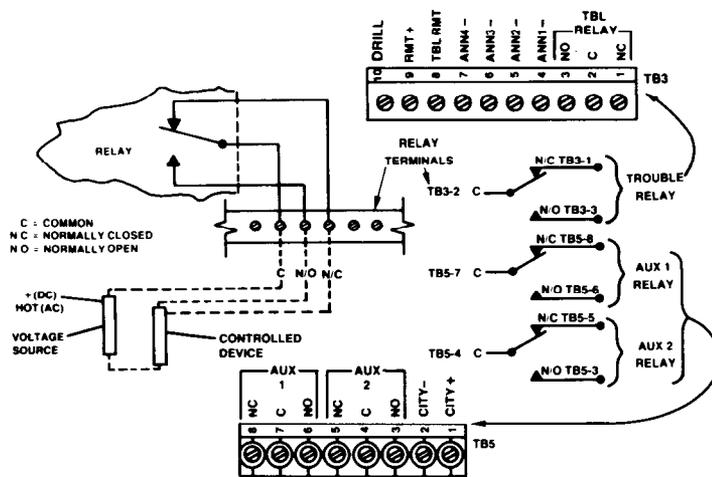

FIGURE 17
9. If remote trouble devices are used, connect them to trouble relay as follows (Refer to Fig. 17):
- If remotely controlled devices are used, connect them to auxiliary master alarm relay as follows (refer to Fig. 17):